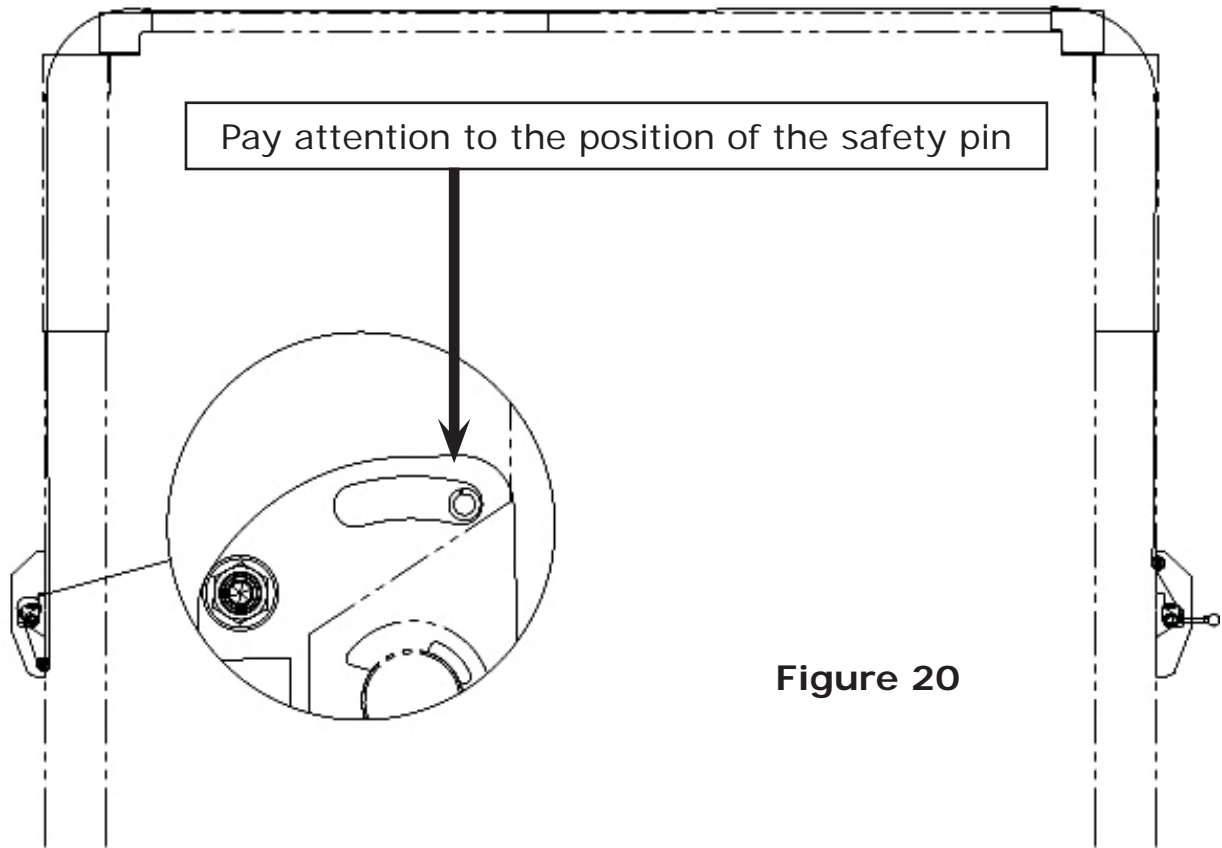

Figure 20
- Continue routing the cable to the off-side column referring to the diagram (fig. 20). Make sure the cables route on the guides mounted previously on the columns and the column extensions and tie it using a strap if necessary (ref. fig. 21);